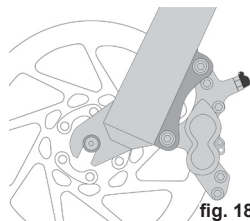
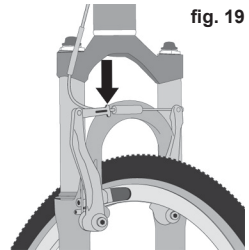

fig. 18
fig. 19
1. If your e-bike has rim brakes, disengage the brake's quick-release mechanism to increase the clearance between the tire and the brake pads. **Refer to Page 57, Section 11: "Tech", subsection C: "Brakes", figs. 18 through 22.**
1. If you have a multi-speed e-bike with a derailleur gear system, shift the rear derailleur to high gear (the smallest, outermost rear sprocket). If you have an internal gear rear hub, do not attempt to remove the rear wheel. Consult the hub manufacturer's instructions for additional information. If you have a single-speed e-bike with rim or disc brake, go to step (4) below.
2. If your e-bike has rim brakes, disengage the brake's quick-release mechanism to increase the clearance between the wheel rim and the brake pads. **Refer to Page 57, Section 11: "Tech", subsection C: "Brakes", figs. 18 through 22.**
3. Some bicycle brakes, such as disc brakes (fig. 18) and linear-pull brakes (fig. 19), are extremely powerful. Take extra care in becoming familiar with these brakes and exercise particular care when using them.
Most rim brakes have some form of quick-release mechanism to allow the brake pads to clear the tire when a wheel is removed or reinstalled. When the brake quick-release is in the open position, the brakes are inoperative. Make sure that you understand the way the brake quick-release works on your e-bike (**see figs. 19, 20, 21 & 22**) and check each time to make sure both brakes work correctly before you get on the e-bike.